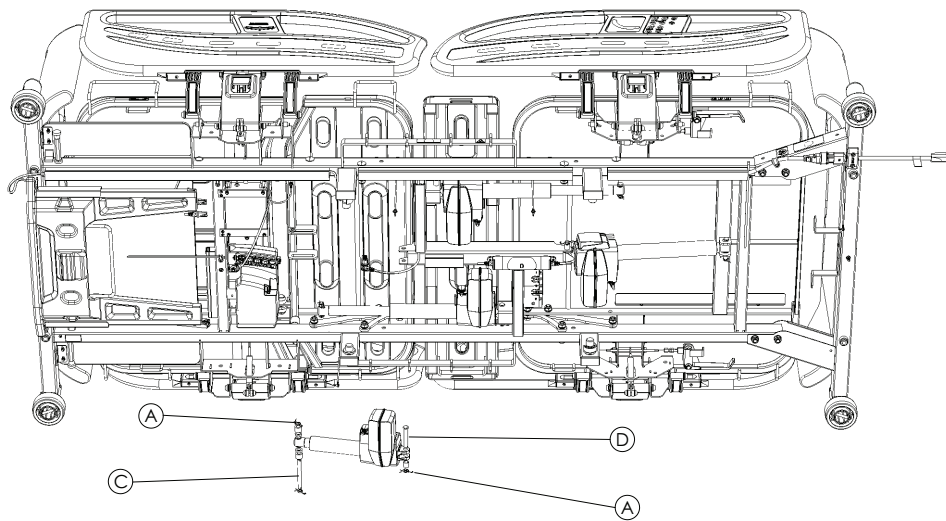

Figure 3 – Gatch (legrest) actuator
6. Using needle nose pliers, remove and discard the rue ring cotter pins (A) (Figure 3) from each clevis pin.
7. Using one hand, support the gatch (legrest) actuator and remove the foot end clevis pin (C) (Figure 3) and spacers then allow the gatch (legrest) actuator to pivot down.
8. Using one hand, support the gatch (legrest) actuator and remove the head end clevis pin (D) (Figure 3) and spacer.